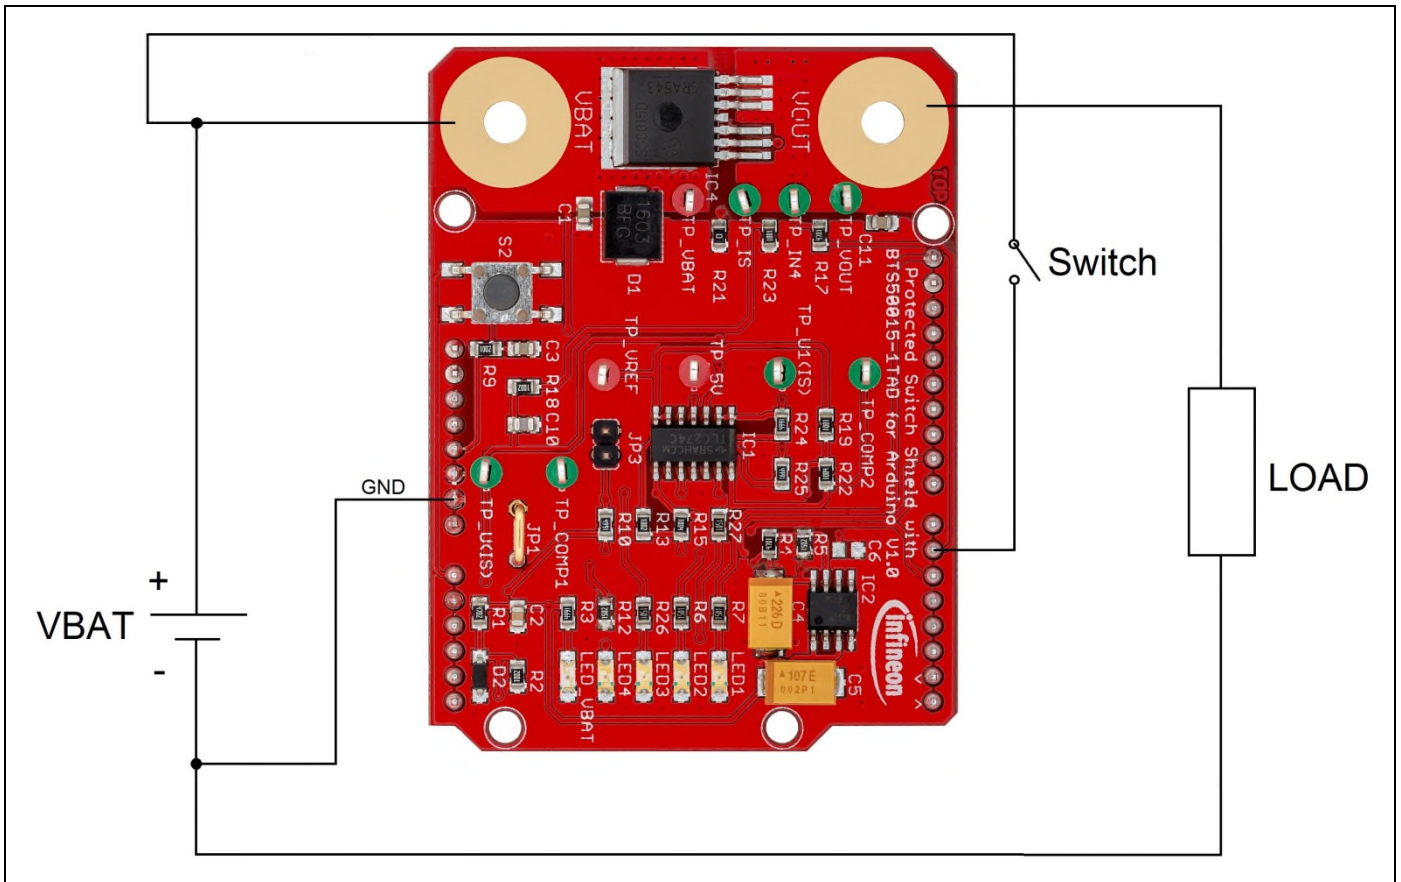

Figure 11 Example circuit of BTS50015-1TAD shield in stand alone mode
The use of the shield BTS50015-1TAD in stand alone mode (without Arduino Uno R3 or the XMC 1100 Boot Kit) is shown in Figure 11.
- Connect the High Side Switch Shield to the load and an external switch corresponding to the example circuit given in Figure 11